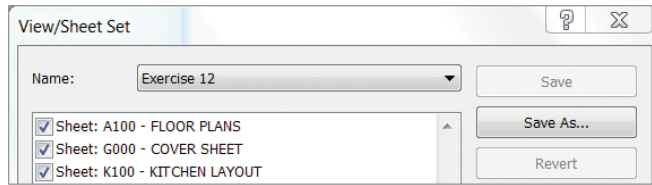

FIGURE 12.29 Specify the sheet set.
8. Click the Save As button, and name the sheet set Exercise 12 (Figure 12.29). This will speed up the process if you ever need to reprint this same set of sheets. Click OK twice to return to the Print dialog.